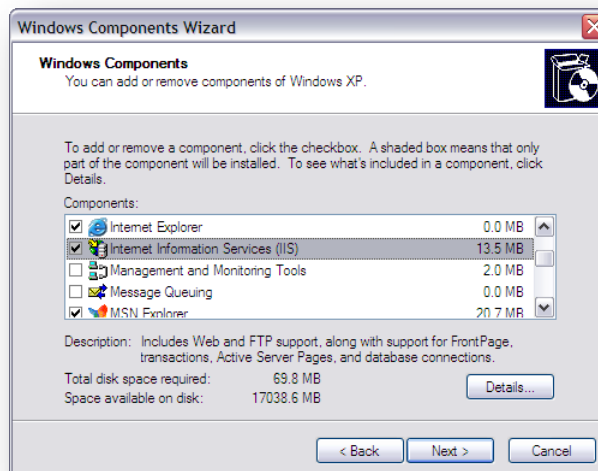

Figure 19 – Windows Components Wizard
3. Check “Internet Information Services (IIS)” and click the “Details...” button. See Figure 19.